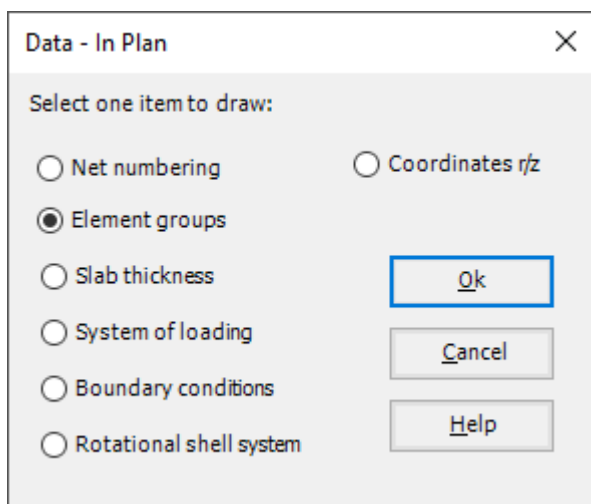

Figure 8.29 "Data – In Plan" option box
- Choose "Element groups" from "In Plan" command in "Data" menu. The following option box in Figure 8.29 appears